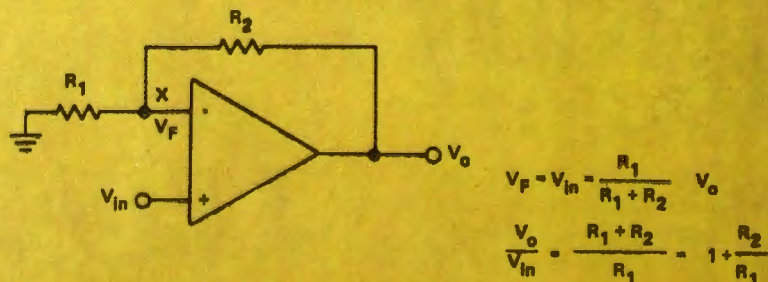

Fig. 3. Schematic of an Op-Amp used as a Non-Inverting Amplifier.
The schematic of an OP-AMP used as a NON-INVERTING AMPLIFIER and the equations describing its operation are shown in Fig. 3. It is very helpful in understanding OP-AMP circuitry to regard the non-inverting (+) input as a reference which will determine the level that both (+ and -) inputs assume. (For now, take it on faith—the reason for this condition will be apparent from the discussion of what goes on within this "little black box"). Under this assumption, the signal voltage at the inverting input (VF) is equal to the input ( $V_{in}$ ) and is related to the output voltage by the resistive divider network as shown. Manipulation of the equations yields the result that the gain of the stage ( $V_o$ ) =  $1 + \frac{R_2}{R_1}$ . In addition to the fact that the output signal is in phase with the input signal, it should be noted that the input impedance of the amplifier is extremely high as it is determined by the characteristics of the op-amp itself.